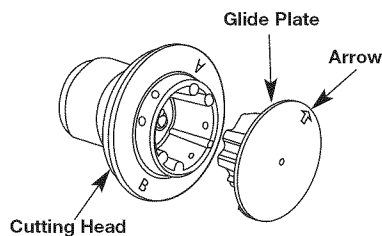

Fig. 14
3. Reinstall line glide plate (Fig. 14). Align arrow with: